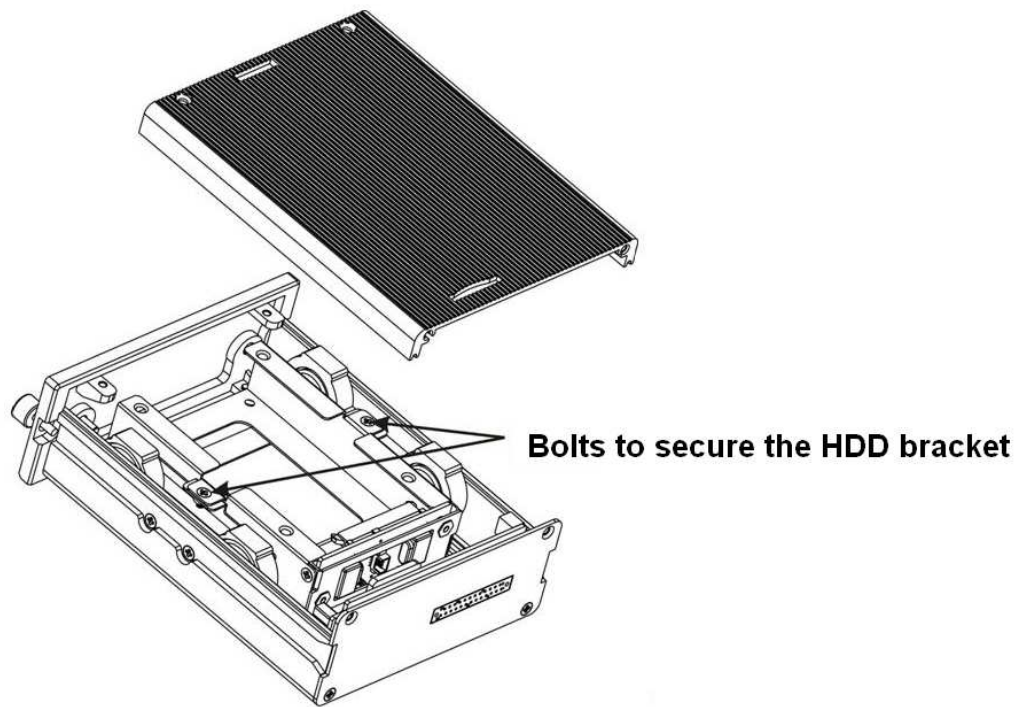

Figure 3-2
2) Now you can see an interface shown as in Figure 3-2 . Remove the two bolts from the HDD bracket and then take out the bracket from the HDD box.